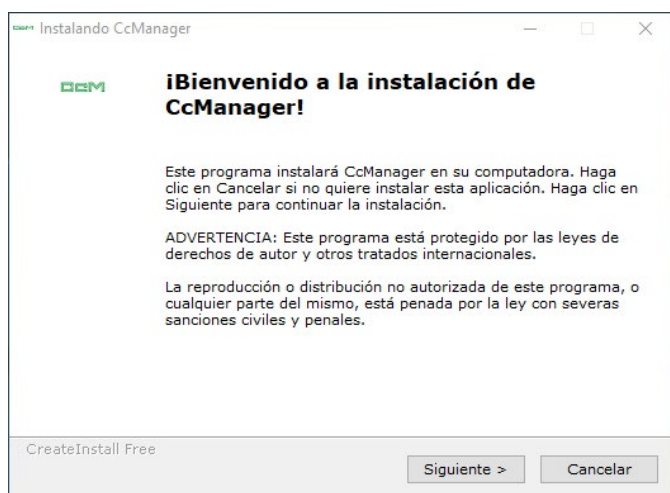

Figure 1. Windows – Installation process 1 of 4
- Click on “Next” to start the installation (Figure 1).